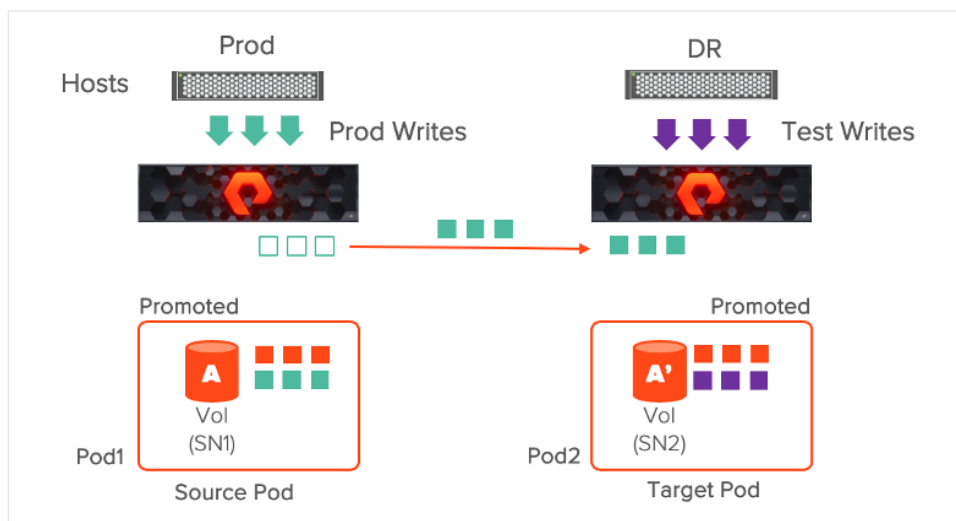

Figure 6. Test failover
As illustrated below in figure 6, when ActiveDR writes data into the source pod (1) the source FlashArray system compresses and tracks the data and then (2) persists and tracks the write operations back to the host (3). The source FlashArray system then continuously streams (4) the compressed data to the target FlashArray, which efficiently tracks (5) the incoming changes and stores them using Purity’s native deduplication and metadata technologies without requiring the additional space for a traditional journal (6).